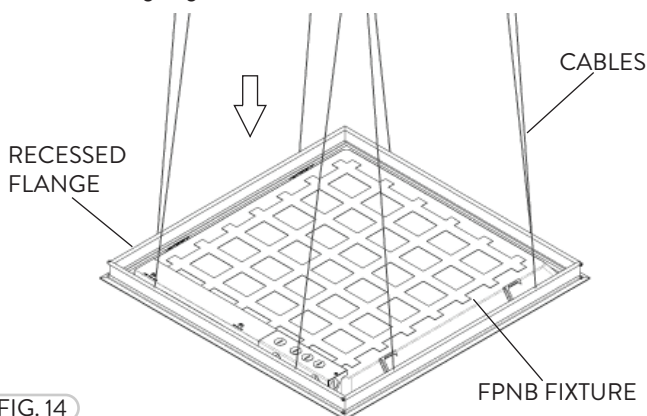

FIG. 14
- 3 After the frame is properly installed into the ceiling, one can then mount the fixture. Carefully mount the fixture onto the Recessed Flange and adjust any Aircraft Cables if necessary (Fig 14). Please refer to wiring diagram for wire installation.